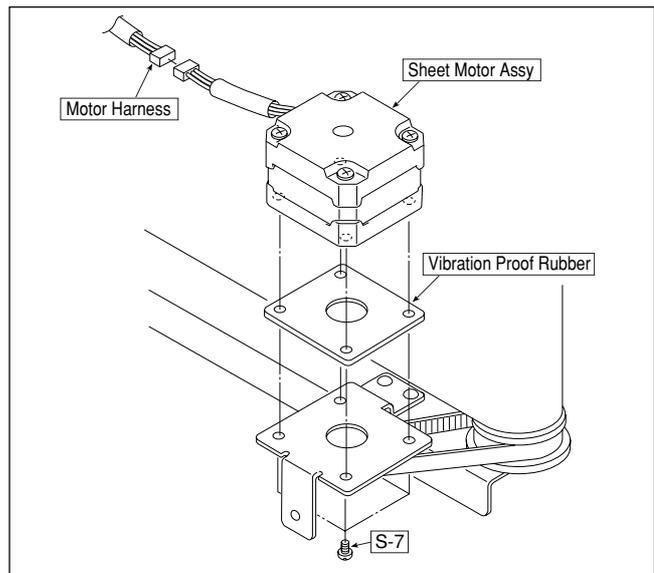

Fig. 8
1. Disconnect the Motor Harness from the Sheet Motor Assy. (See Figure 8.)
- 8) Remove the Sheet Motor Assy. (See Figure 8.)
1. Remove the "S-7" screw shown in Figure 8 and then remove the Sheet Motor Assy. (Tightening torque: 4.5kgfcm)